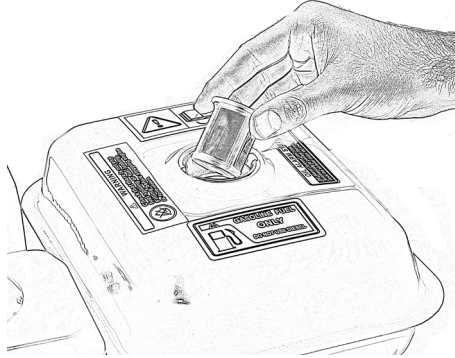

Figure 26
- Open the tank cap and remove the tank strainer, Fig. 26.